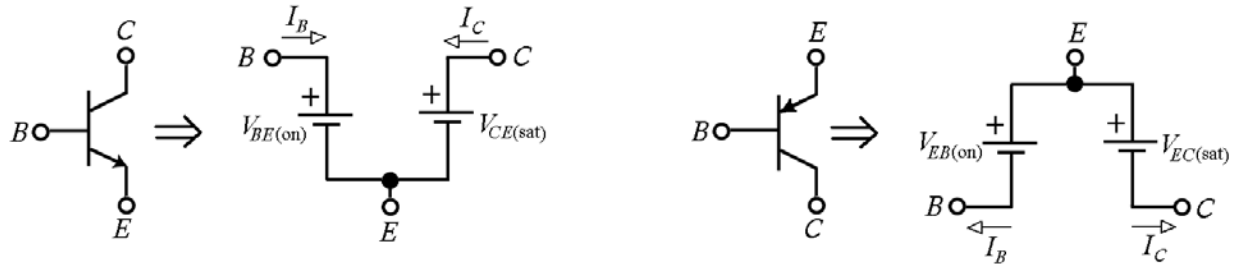

Fig. 5 – Large-signal BJT models in the *saturation region*.
- In the *saturation region* the CE port too acts as a *battery*, namely, $V_{CE(\text{sat})} \cong 0.1 \text{ V}$ for the *npn* BJT and $V_{EC(\text{sat})} \cong 0.1 \text{ V}$ for the *pnp* BJT, so the two BJT models are as in Fig. 5.